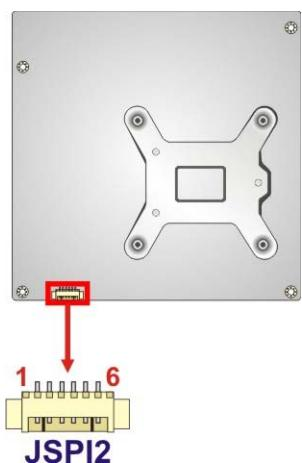

Figure 3-10: EC Update Connector Location
**CN Location:** See Figure 3-10